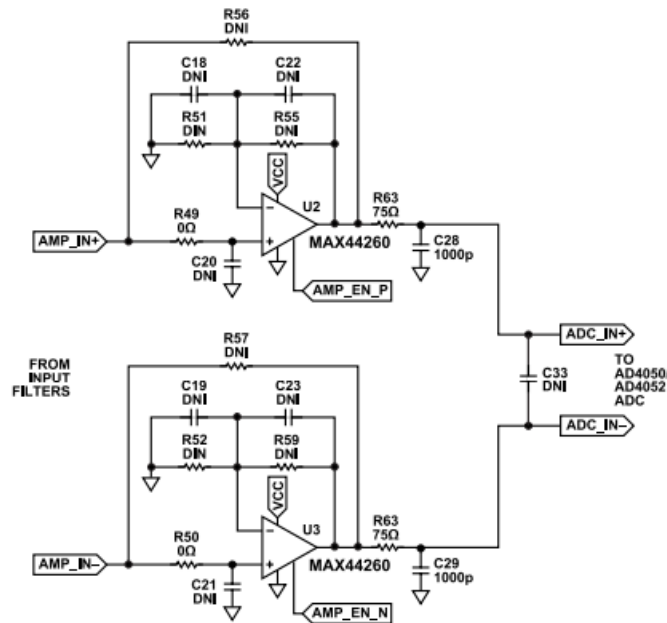

Figure 12. Default Amplifier Circuit Simplified Schematics
- MAX44260 op amps in 6-lead SC70 footprint configured as unity-gain buffers by default (see Figure 12)